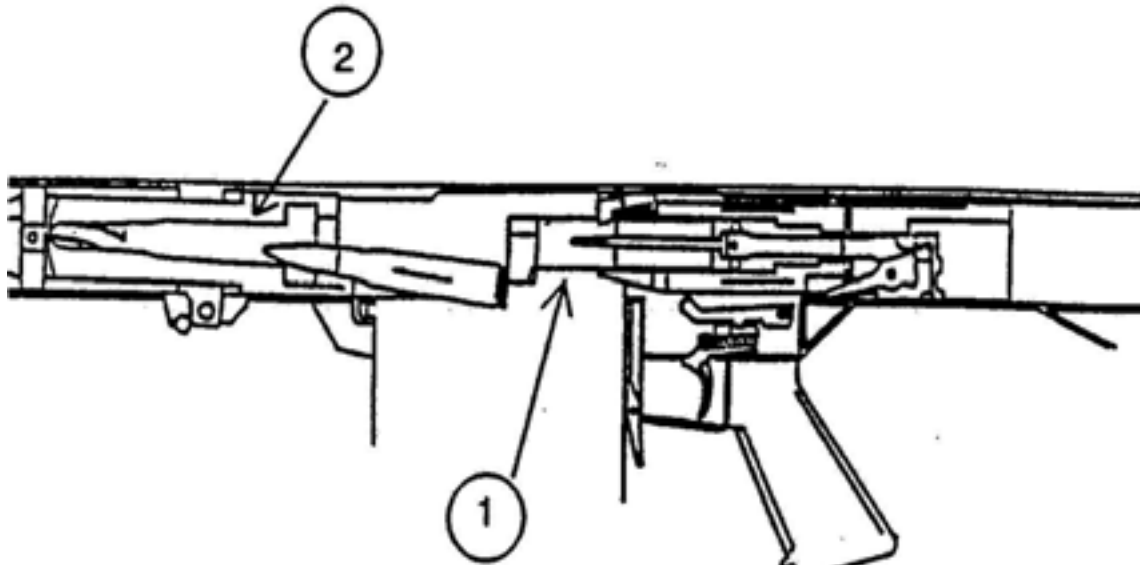

Figure 1-5. Feeding Procedure
1.3.2 FEEDING. The force of the mainspring pushes the bolt (1), Figure 1-5, forward, toward the barrel extension (2), stripping a cartridge from the magazine and loading it into the chamber. The bolt carrier is moved to the rear by hand when first loading but the bolt carrier handle should be released fully to allow the bolt to come forward freely under spring pressure. The rifle will fire in the semiautomatic mode on subsequent firings.